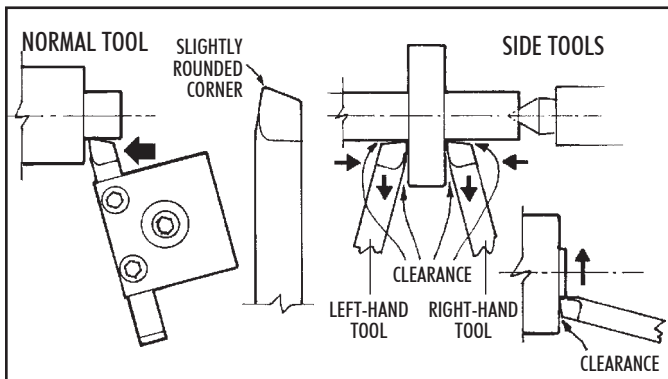

Figure 12—Arrows show direction of tool feed in all diagrams.
**Turning Tools (Left- and Right-Hand)**—Reference to Figure 12 will illustrate the lateral positioning of this tool. Note the clearance behind the point between the end of the tool and the work. Insufficient clearance will cause the tool to “rub,” and excessive clearance will produce a ridged or wavy finish due to the small length of tool edge in contact with the work. This ridging becomes more pronounced with rapid feed. To provide a smooth finish, the sharp cutting point may be slightly rounded with an oilstone, taking care to preserve the side clearance underneath this corner.